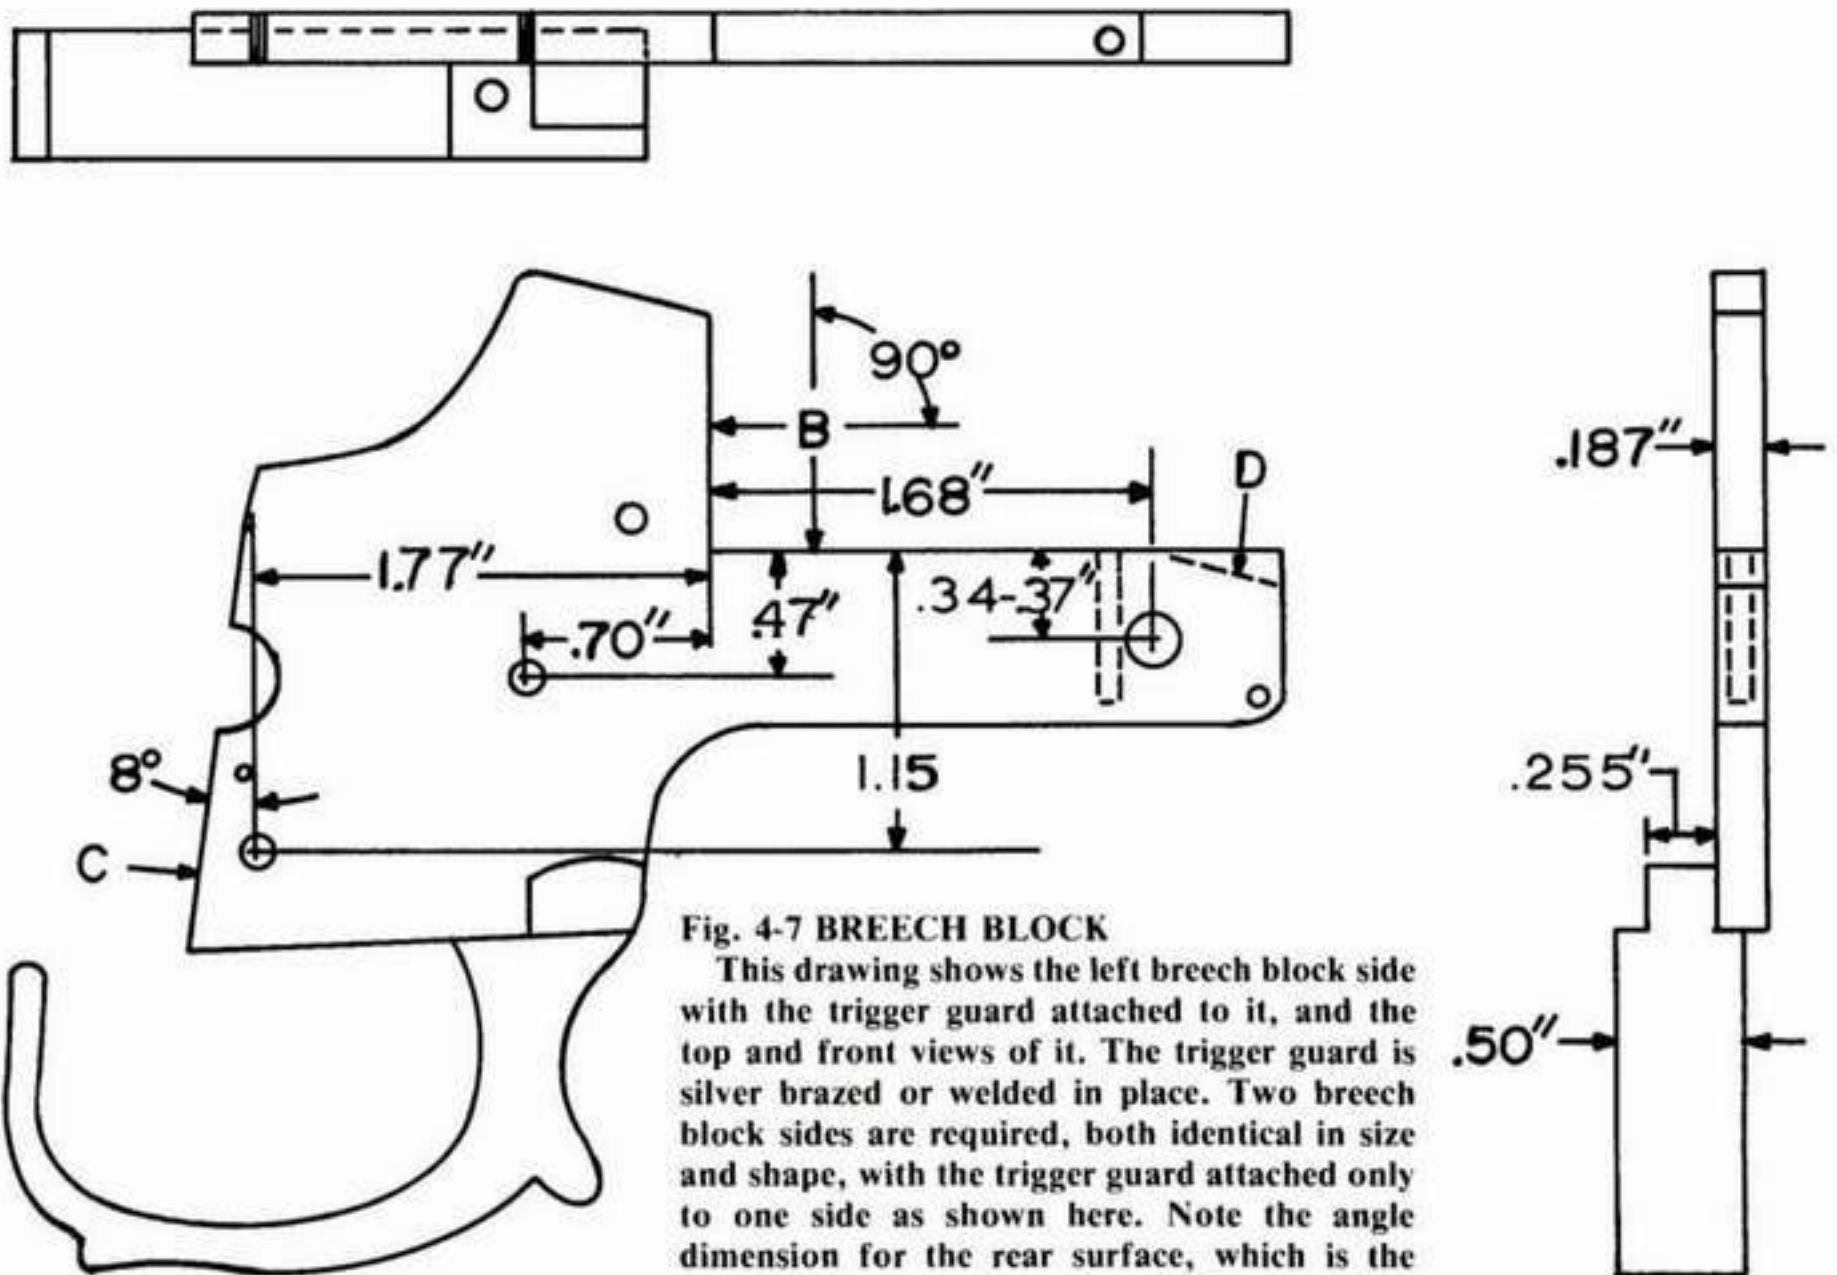

Fig. 4-7 BREECH BLOCK
At this point you are ready to remove some metal from the top front corners of the breech block extensions as indicated by the dotted line (D) in Fig. 4-7. Be careful here as it is easy to remove too much metal—for now remove just enough to allow the breech block to swing about two thirds open.